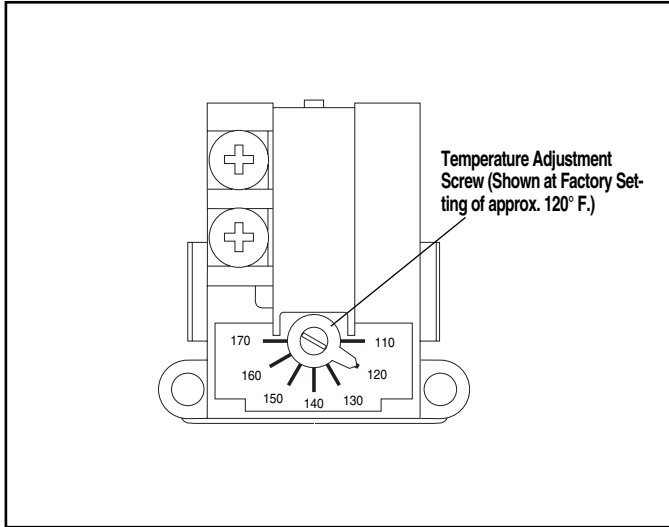

Figure 13 — Lower Thermostat temperature adjustment.
- B. Remove the four (4) screws securing the thermostat access panel and the two (2) thermostat insulation pads, exposing the thermostat. The plastic personnel protector **should not be removed**.
- C. With a small screwdriver, adjust the thermostat setting. This thermostat is marked in degrees from 110°F to 170°F. The thermostat is factory set to the 120°F position (the recommended setting). (Refer to Figure 13).